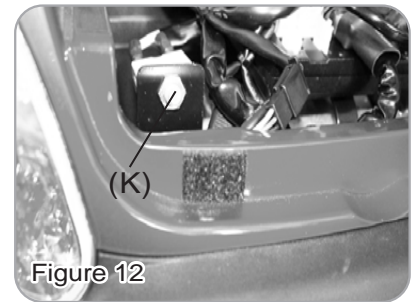
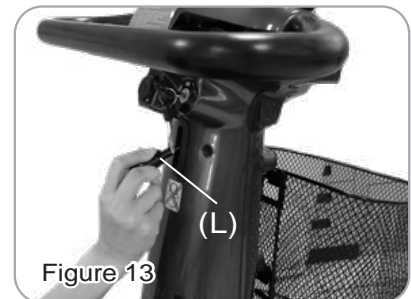

Figure 12
Figure 13
- CIRCUIT BREAKER (See Fig. 12)
1. If the scooter's circuit system malfunction or over loaded, the circuit breaker (K) will automatically switch off the power to ensure safety.
- TILLER ANGLE ADJUSTMENT (See Fig. 13)
1. To adjust tiller angle by pushing down the tiller angle adjustment (L).